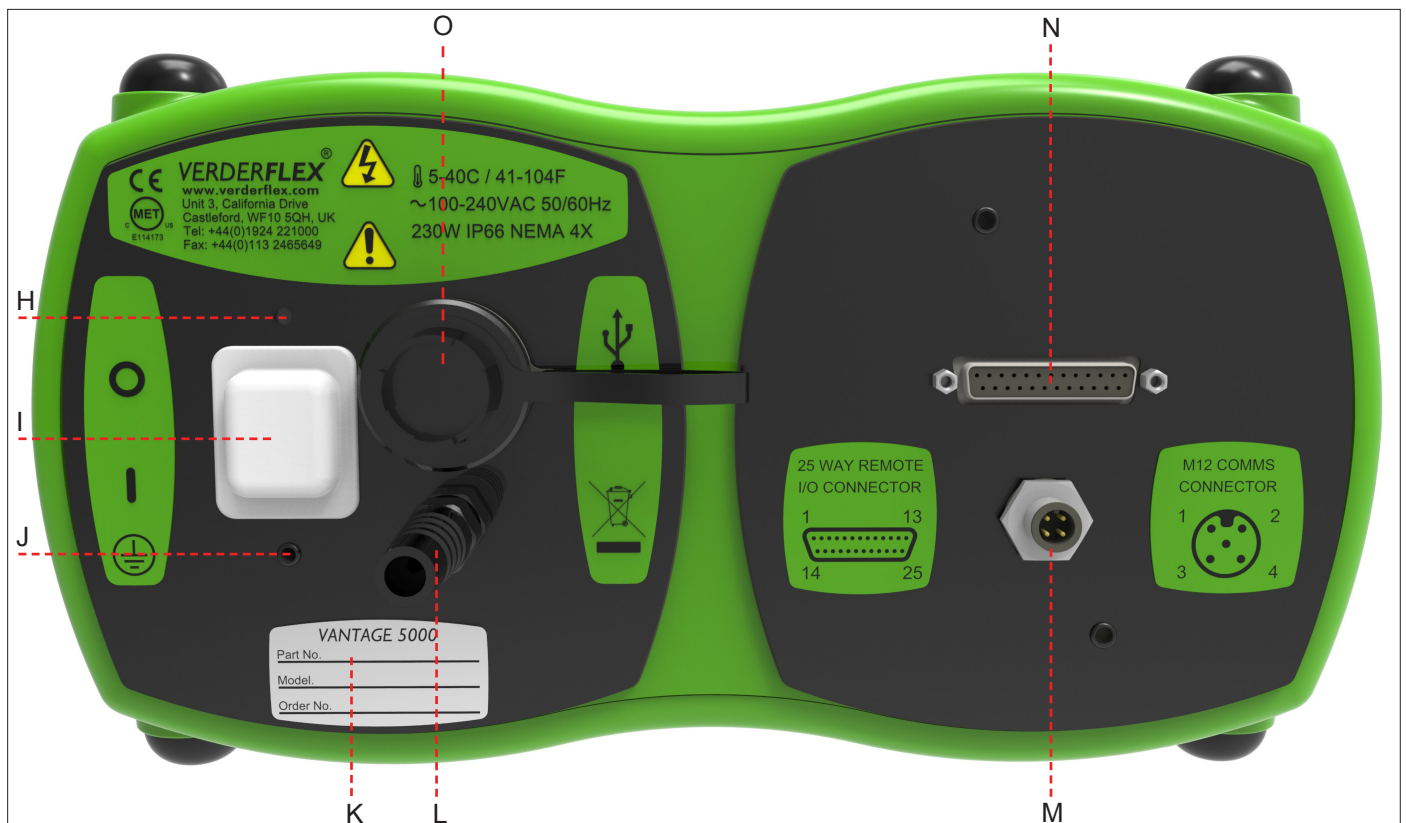

Figure 3 Back of the Pump
- ▶ If an Earth/Ground is unavailable from the mains plug, there is an earthing stud provided on the back of the pump (→ Figure 3) and this should be used in place of the earth from the mains plug.